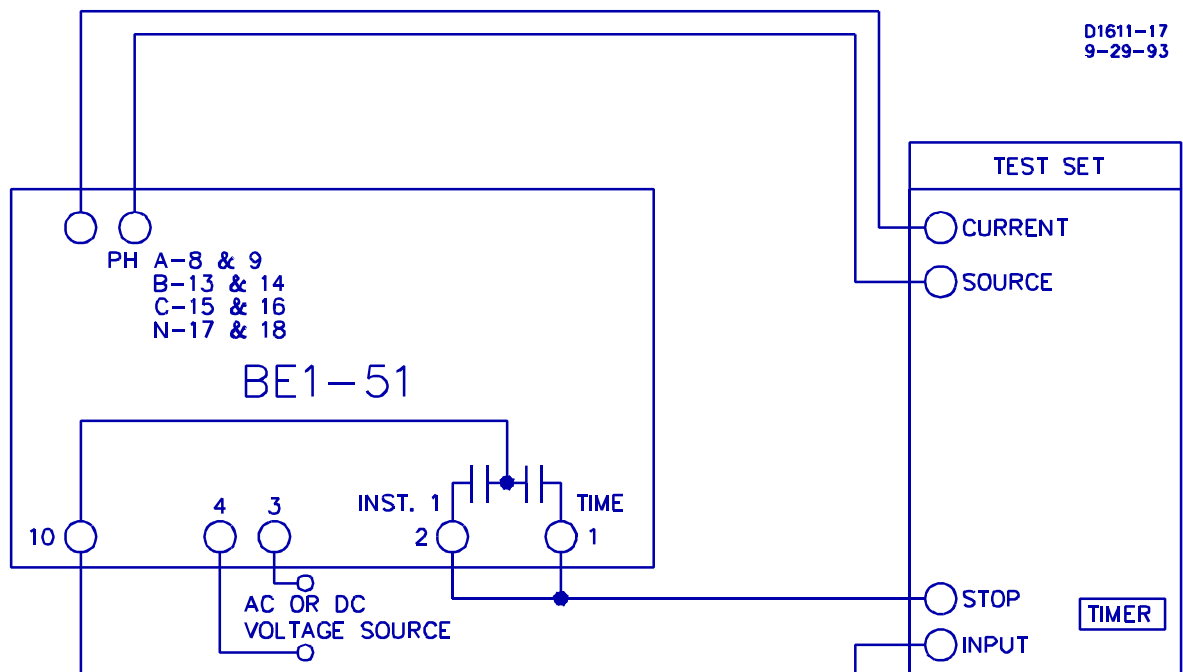

Figure 5-3. Test Setup for Sensing Input Type H or V (Three-Phase with Neutral Sensing)
- (c) Sensing Input Type H or V (Three-Phase with Neutral Sensing). Refer to Figure 5-3. Ensure that the timed output terminals 1 and 10 are connected. Also, verify that either A, B, or C current sense terminals are connected initially (N terminals will be connected later in the test).
(d) Sensing Input Types H or V (Three-Phase with Neutral Sensing). Remove the power and reconnect the input sensing to each of the remaining phases as shown in Figure 5-3, each time repeating Steps 1 through 10. For neutral testing continue with Step 12.
For the neutral sensing (terminals 17 and 18), connect the relay as shown in Figures 5-3 and 5-4, then perform the following steps (Steps 13 through 21).
Step 11. Remove the power and reconnect the test output to the neutral current sensing input of the relay as shown in Figures 5-3 and 5-4 (terminals 17 and 18).